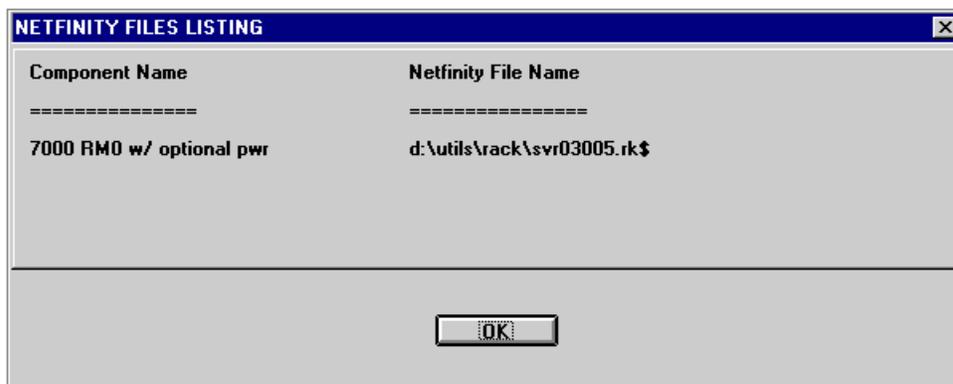

Figure 22. Sample Export File Created
3. Create the Netfinity files by selecting **Tools** → **Create Netfinity Files** in main window. A separate file is created for each server defined in the rack configuration. (see Figure 22 on page 46)